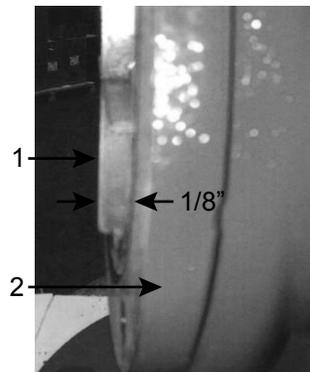

Figure 4: Re-install the baffle
9. Re-install the inlet vanes (baffle) assembly part way. Using a wooden or plastic mallet, gently tap the inlet vanes (baffle) into the notches, pinching the orifice cylinder (strainer) to the body. Make sure that the inlet vanes (baffle) is not tapped in further than the surface of the body. The inlet vanes (baffle) should stick out about 1/8" from the surface of the body. See Figure 4.